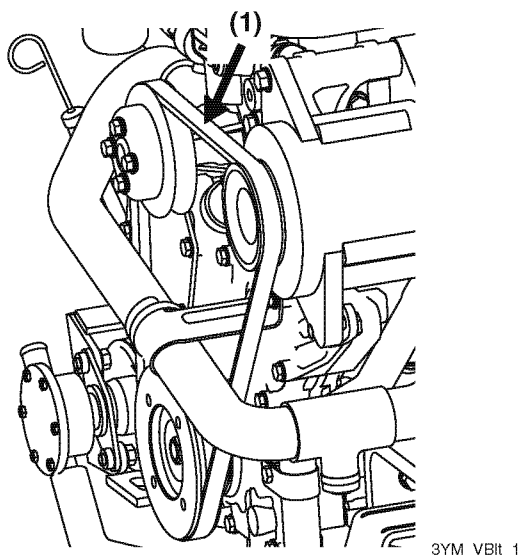

Figure 4-8
2. Check the tension of the V-belt by pressing down on the middle of the belt (**Figure 4-8, (1)**) with your finger with moderate force.